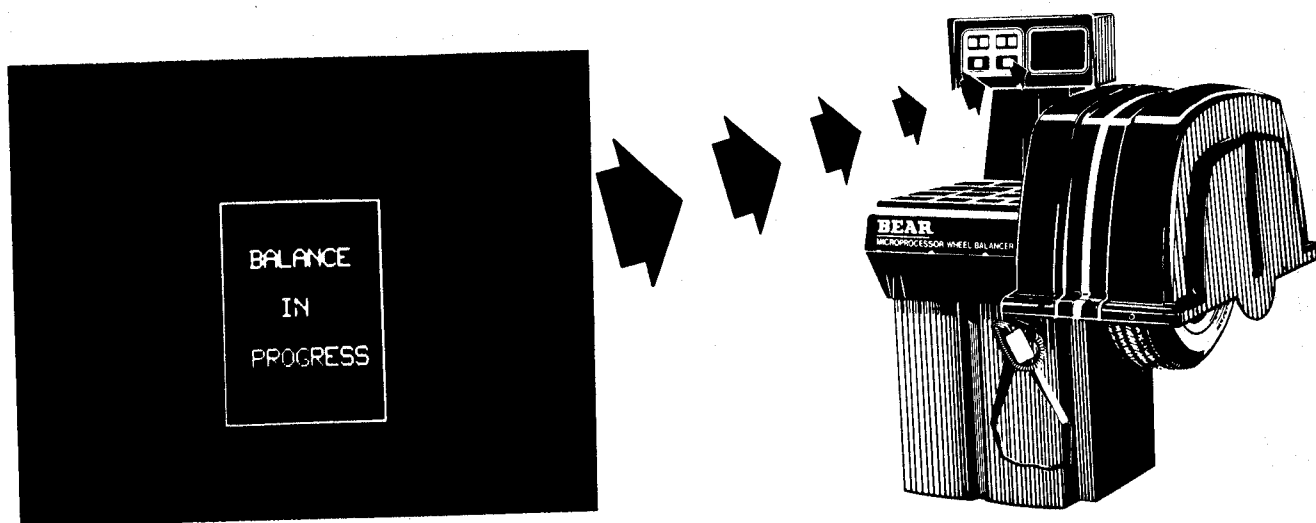

FIGURE 8. BALANCING IN PROGRESS
- 2). Press "Start" Button. Display shows Figure 8 until weight measurement is complete.